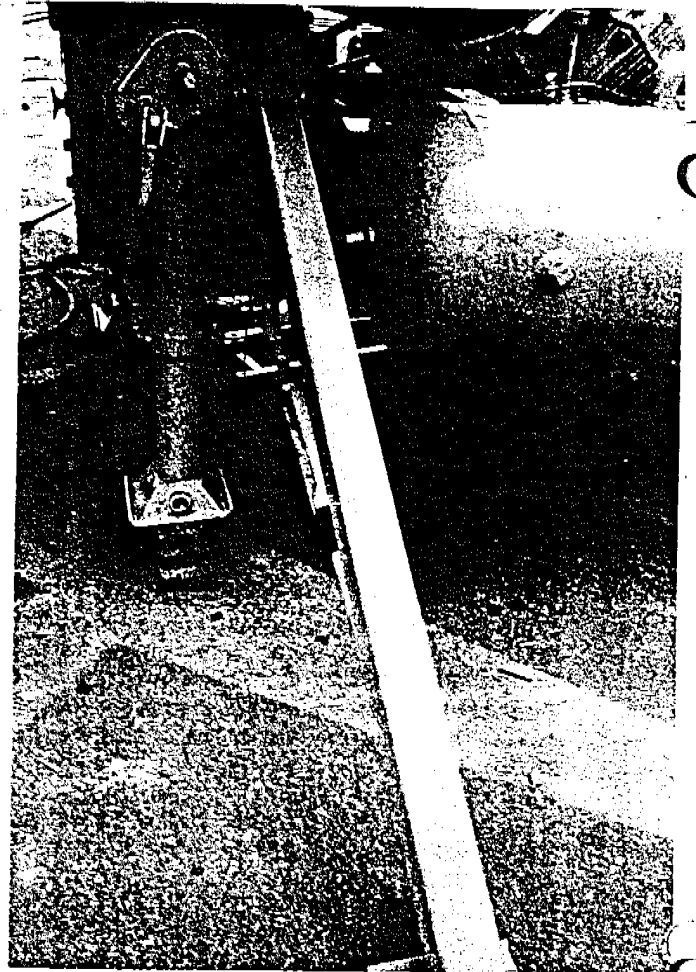

Fig. 11
- b. Install outriggers on the front of the trailer. PIN AND SNAP KEY (a) Remove the turnbuckle pin from the outrigger and swing the turnbuckle down and pin to the ear on the trailer frame (b). (Fig 11)